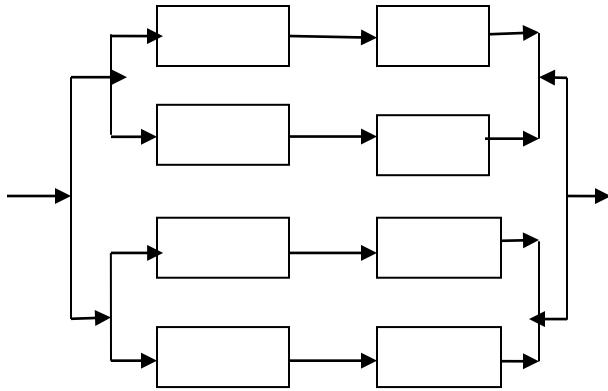

Fig 8. System Redundancy
High level redundancy is based on the system or subsystem (See Fig 8). Each subsystem consists of individual units in series. The resulting serial configuration is placed in parallel with other subsystems to form a bank. Several such banks are placed in parallel to form a **High Level Redundant** system. Assuming there are 'm' identical components per serial configuration subsystem which form a bank and 'n' banks in parallel, then the system reliability assuming identical components is given by:
**Example:** From Fig 8, Let  $R_i=0.9$  for all components. Use  $n=2$  and  $m=3$ . Note that in fig 8,  $m=2$ .